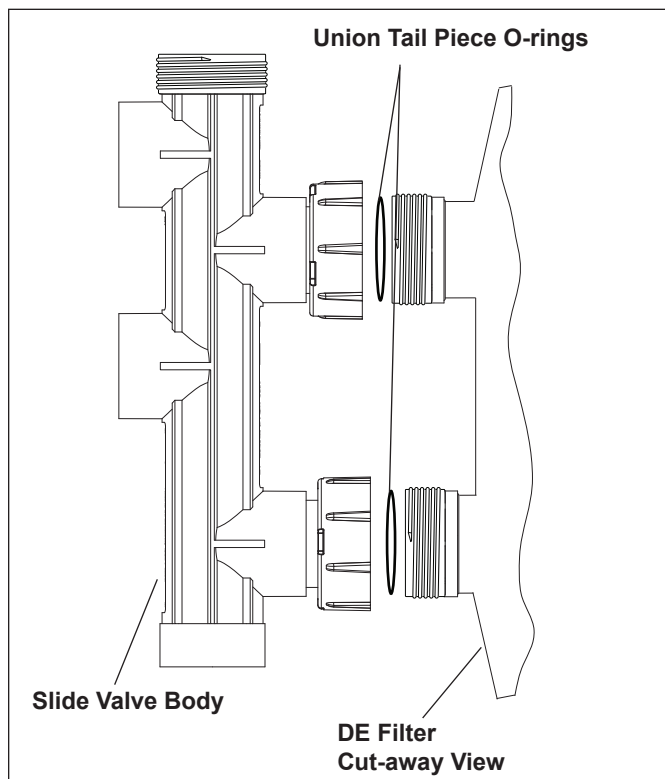

Figure 7. Remove Union Tail Piece O-rings - DE Filter Cut-away View Shown
1. Loosen the union coupling nuts that secure the slide valve body to the filter (see Figure 7). Pull the slide valve body away from the filter to break the connection.
2. Remove the existing o-rings from the union tail pieces (see Figure 7).